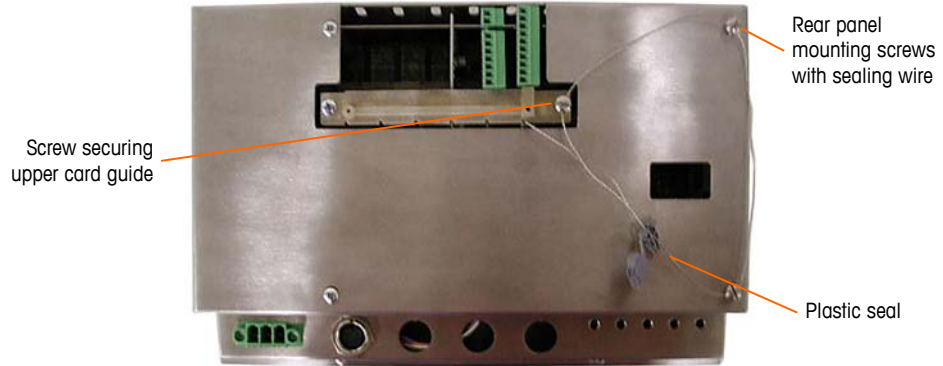

Figure 2-88: 3-Point Sealing, Panel Enclosure Rear Cover
4. Finally, the back panel of the enclosure is sealed. Three sealing screws are indicated in Figure 2-88 – two secure the panel in place on its stand-offs and one secures one end of the upper card guide.